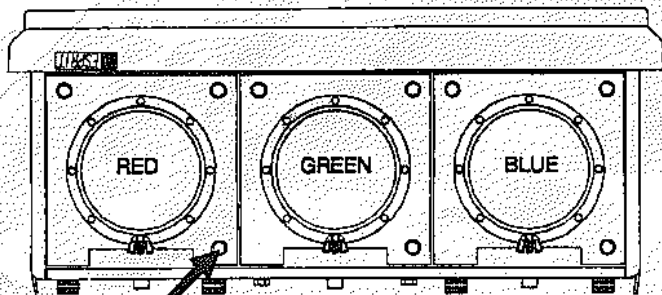

FIGURE 8-7. STEP 10.
- **STEP 10. RED ONLY!** Adjust the lower right lens adjustment until the upper right corner of the projected image is focused. See figure 8-7. REPEAT..... Steps 2 and 9 until optimal focus is achieved in the upper and lower left corners of the projected image.